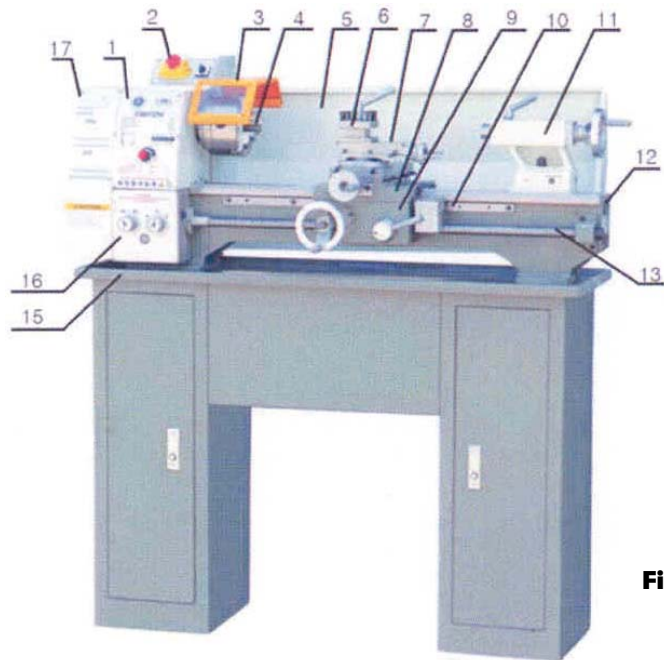
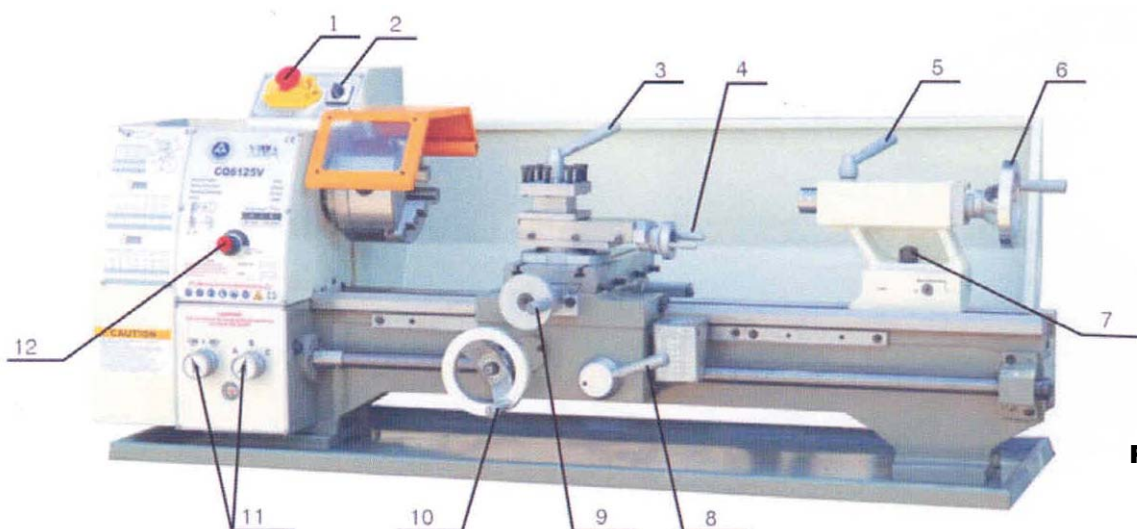

Fig. 1
Fig. 2
Main components (Fig 1)
Controls (Fig. 2)
- The motor provides a direct drive to the spindle via an internal tooth type belt. Spindle speed is variable and is regulated by the speed control switch (Fig. 2, part 12) located on the main control panel.
- The self-centering 3-jaw chuck (Fig. 1, part 4) is mounted on the spindle flange. To remove the chuck, simply remove the three securing nuts on the rear of the flange allowing it to be pulled free together with the three mounting studs.
- **Note!** The chuck has a protection cover (Fig. 1, part 3). When opening the cover, main power of the lathe will be switched off so keep the cover closed when using the machine.
- Automatic feeding is enabled or disabled by the clutch (Fig. 2, part 8) on the carriage. Turn the lever to the right for automatic feeding. Turn the lever to the left to disable automatic feeding.
- The saddle carries the cross-slide, on to which is mounted the tool rest (Fig. 1, part 6) allowing intricate and delicate operations to be performed. It may be driven by a lead screw, via a drive nut, to provide automatic feed when the lever (Fig. 2, part 8) at the right position is operated.
- Select "Forward" using the Forward/Reverse switch (Fig. 2, part 2) on the main control panel, then release the emergency stop switch (Fig. 2, part 1) by turning the red head to the right. The power lamp lights.